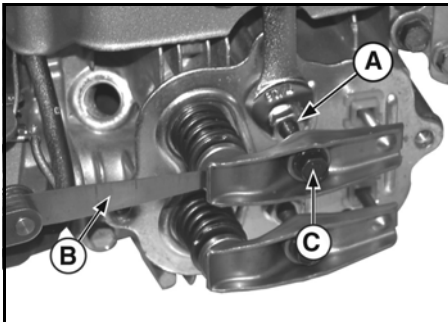

Figure 43
1. Loosen jam nut (A, Figure 43) at base of rocker arm stud. Then, using a feeler gauge (B), turn rocker arm screw (C) to obtain the correct clearance as listed in Section 12 - Engine Specifications.